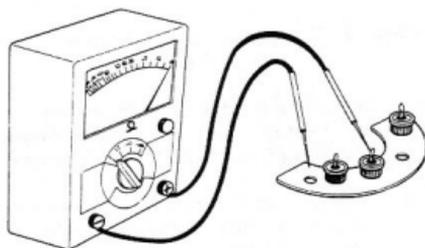

Fig.8-38 Rectifier Test G0173
2. Rectifier holder negative side. Connect the tester (-) lead on the rectifier holder, and (+) lead on the rectifier lead as shown in figure 8-38. Switch the tester to resistance check range, and check the resistance. Good rectifier will indicate no resistance, and if it indicate high resistance, the rectifier is opened. Then turn the polarity of the tester and check again. If the needle of the tester moves in either polarity, the rectifier is shorted. If the needle does not move in either polarity, the rectifier is opened, and should be replaced as a set.